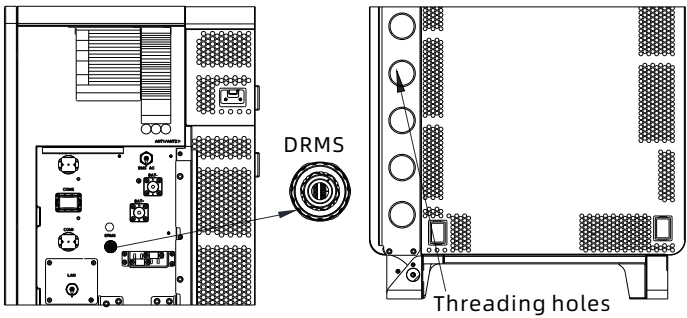

Fig 6.15 DRMS port
- 3. After the cable connection, reinstall the dustproof cover. The position of the DRMS port is shown in Fig 6.15 below.